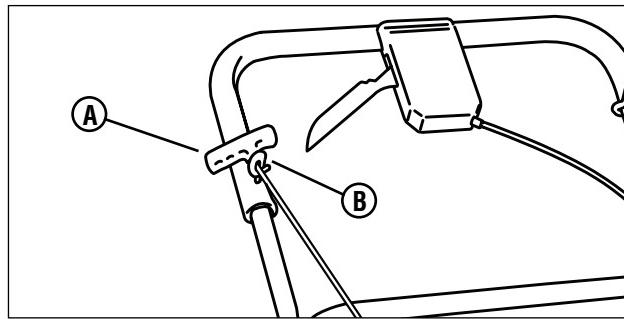

Figure 3: Attaching the recoil-start grip
5. Hold the engine stop lever against the handle. (Refer to section entitled 'Engine Stop Lever'.) Slowly pull the recoil-start grip (A, **Figure 3**). To attach the recoil-start grip to the rope guide (B), twist the rope through the rope guide mounted on the right side of the handle.